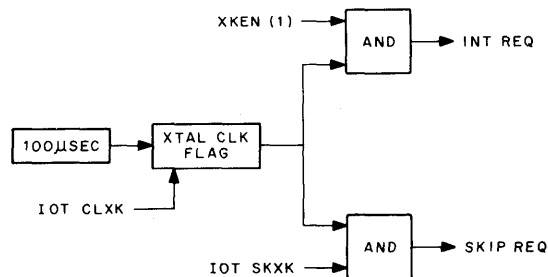

Figure 3-3 Crystal Clock Logic
The crystal clock serves as a timer and provides a pulse every 100 μ s to set the XTAL CLK flag (flip-flop) (Figure 3-3). The state of the crystal clock flag is used by the IOT SKXX (skip on crystal clock flag) to cause a skip request if the flag is set. IOT SKXX is caused by BMB bit 9(0) and the combination of IO2 decoded in the decoder (MB 6, 7, 8 as 010) and the IOP 1 pulse from the computer. To cause an interrupt request, the 1 state of the flag is ANDed with XKEN(1) from the Enable Register. XKEN is set by IOT OTEN (AC bit 3 (1)).